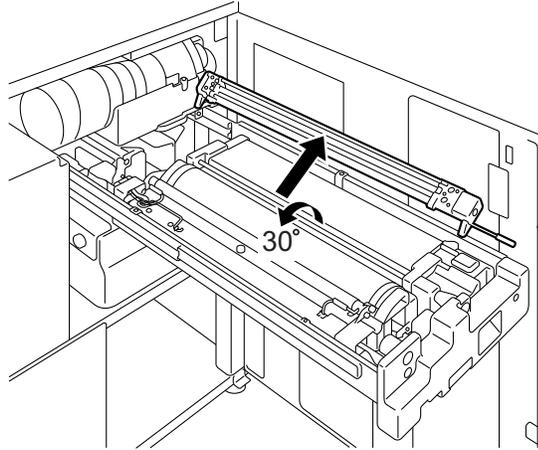

Figure 5-5
3. Remove the Main Charge Unit as shown in Figure 5-5.